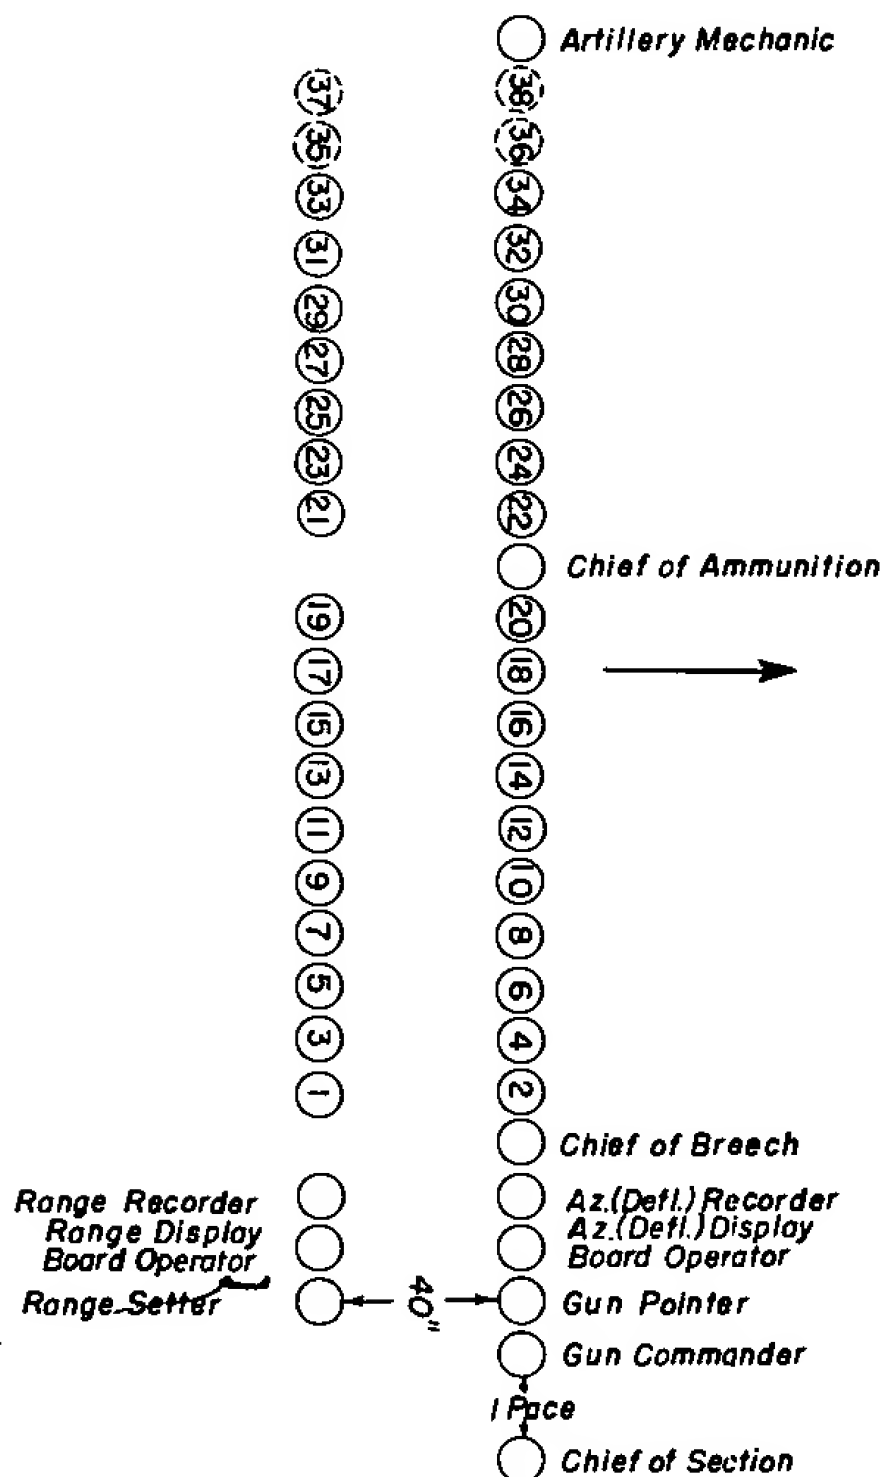

FIGURE 1.—Formation of the gun section.
■ 6. FORMATION.—Each section assembles in two ranks with 4 inches between files and 40 inches between ranks. The post of the chief of section is in the front rank, 1 pace to the right of his section. The artillery mechanics who are members of the maintenance section normally form with the firing section, and take post in the front rank on the left of the first and last gun sections. (See fig. 1.)